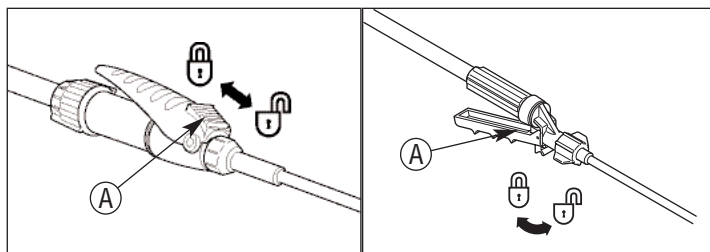

Figure 14. Apply and Release Shut-Off Lock
3. For continuous spraying, squeeze the shut-off handle and either slide or rotate the lock (A) towards you. To unlock, slide or rotate the lock towards the nozzle. See Figure 14.